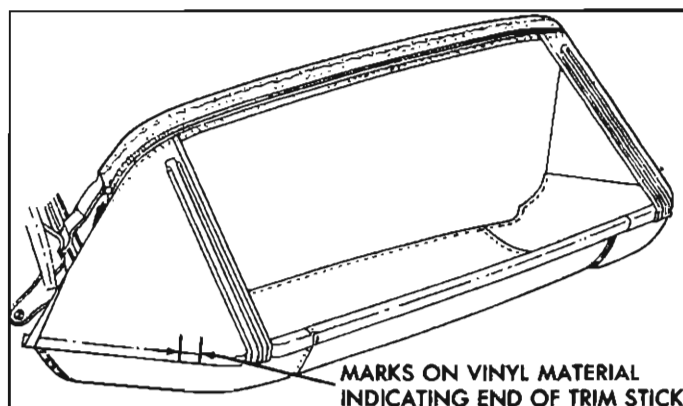

Fig. 63—Marking Back Curtain Material
12. Using chalk, or other suitable material, mark ends of rear and rear quarter trim sticks on vinyl surface of back curtain material (fig. 63). Reference marks for trim sticks should be transferred to new back curtain material when step 4 of installation procedure is performed.